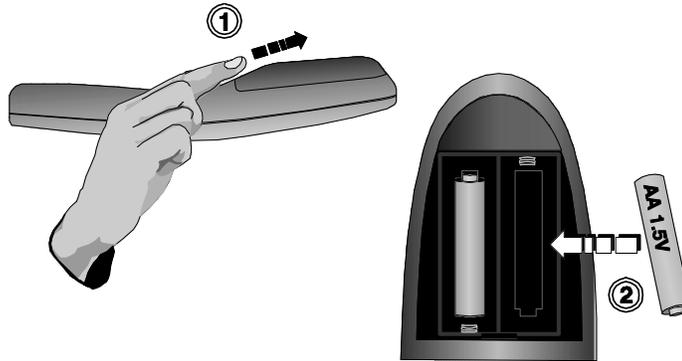

FIGURE 5-1 REPLACING REMOTE BATTERIES
1. Remove the back cover. See Figure 5-1 Replacing Remote Batteries.
2. Replace the batteries. The proper positive/negative orientation is indicated by the etching in the bottom of the compartment. See Figure 5-1 Replacing Remote Batteries.